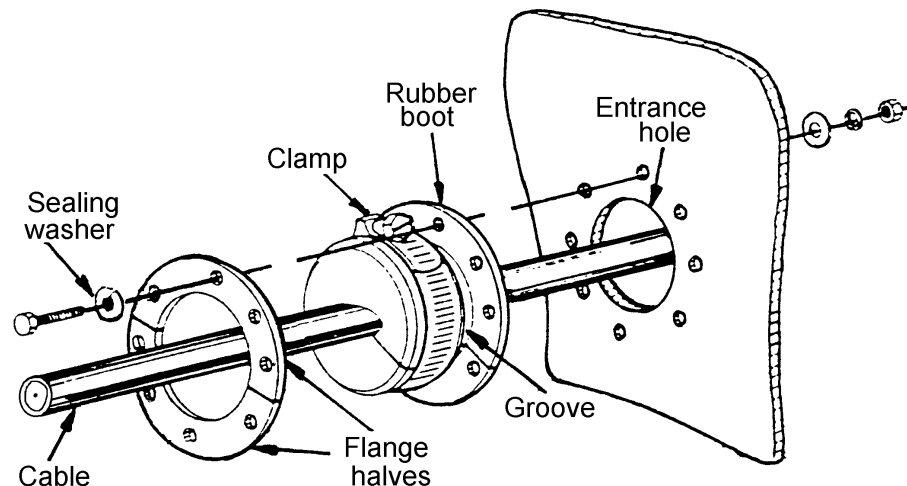

**Figure 2.24** - Fit Connector
- 8.8 Fit the smaller 'O' ring to external groove on connector body without any grease, see Figure 2.24. Apply a thin film of grease to rear outer surface of compression ring (so that large 'O' ring in clamping nut will slide over compression ring and seat in the recess).